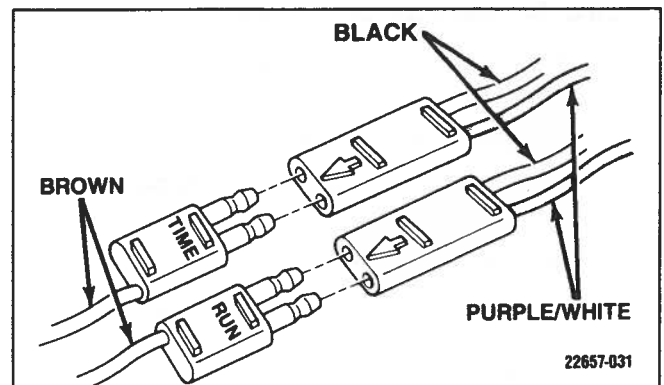

Figure 4-5. Timing Plug Positions
2. Change the timing plug to the "TIME" position (see Figure 4-5).
7. Switch the timing plug to the "RUN" position (see Figure 4-5).